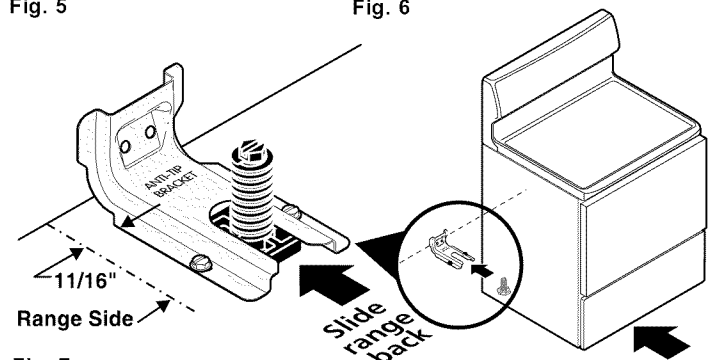

Fig. 7
1c. Level and Position Range - Level range by adjusting the (4) leveling legs with a wrench. NOTE: A minimum clearance of 1/8" is required between the bottom of the range and the leveling leg to allow room for the bracket. Use a spirit level to check your adjustments. Slide range back into position (See Fig. 7).
Carefully slide range into final position while inserting rear leveling leg into and FULLY ENGAGING THE ANTI-TIP BRACKET (See Fig. 7). Make sure the power cord folds into the remaining open floor area behind the range Warmer or storage drawer. Be sure to check the level of the range.